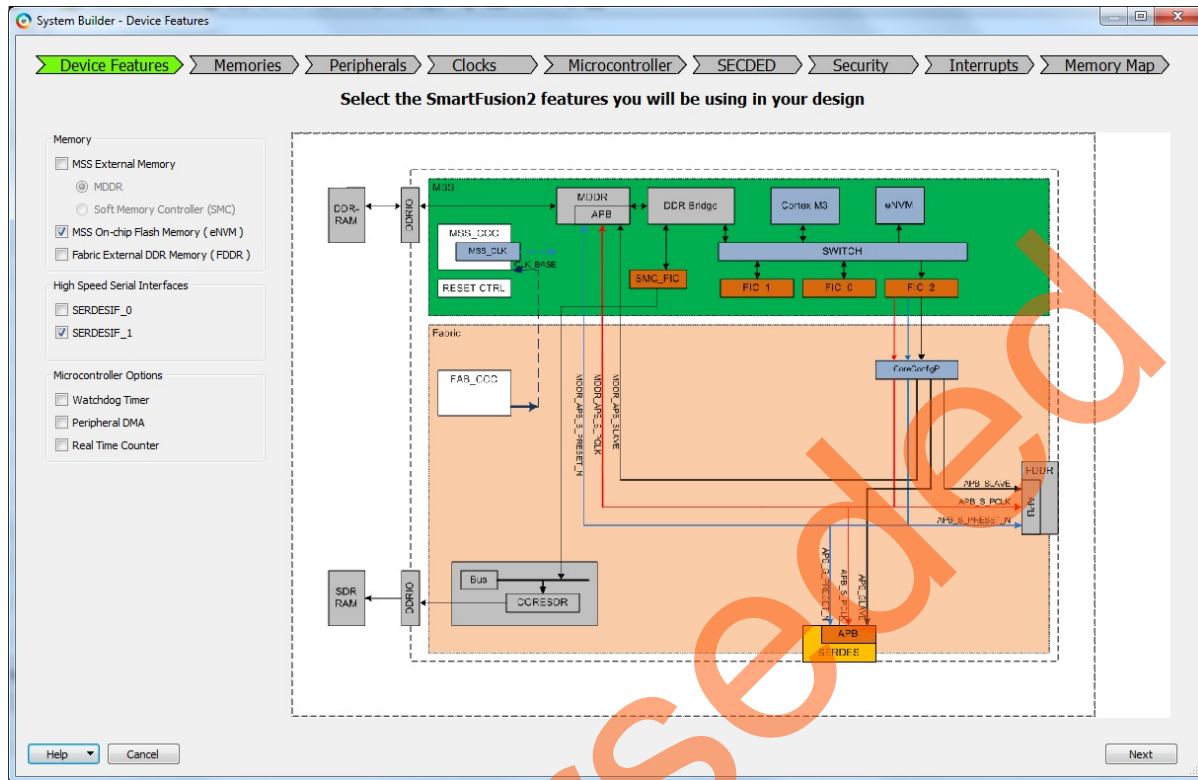

Figure 7 • SmartFusion2 SoC FPGA System Builder Configurator
- The System Builder dialog box is displayed with the Device Features page open by default. Enter the following details in the **System Builder – Device Features** page as shown in Figure 7 on page 9: